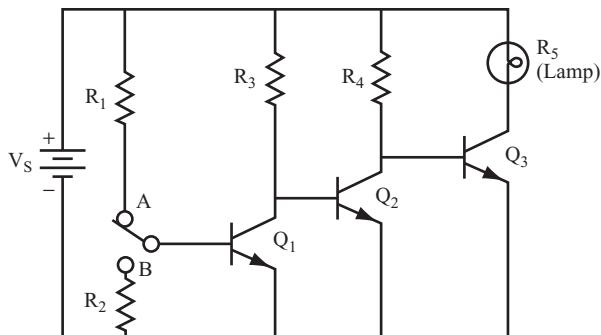

FIGURE 4.19
**24** The circuit shown in Figure 4.19 uses three transistors to switch a load on and off. In this circuit,  $Q_1$  is used to turn  $Q_2$  ON and OFF, and  $Q_2$  is used to turn  $Q_3$  ON and OFF. The calculations are similar to those you performed in the last few problems, but a few additional steps are required to deal with the third transistor. Use the circuit diagram in Figure 4.19 to determine the answers to the following questions.